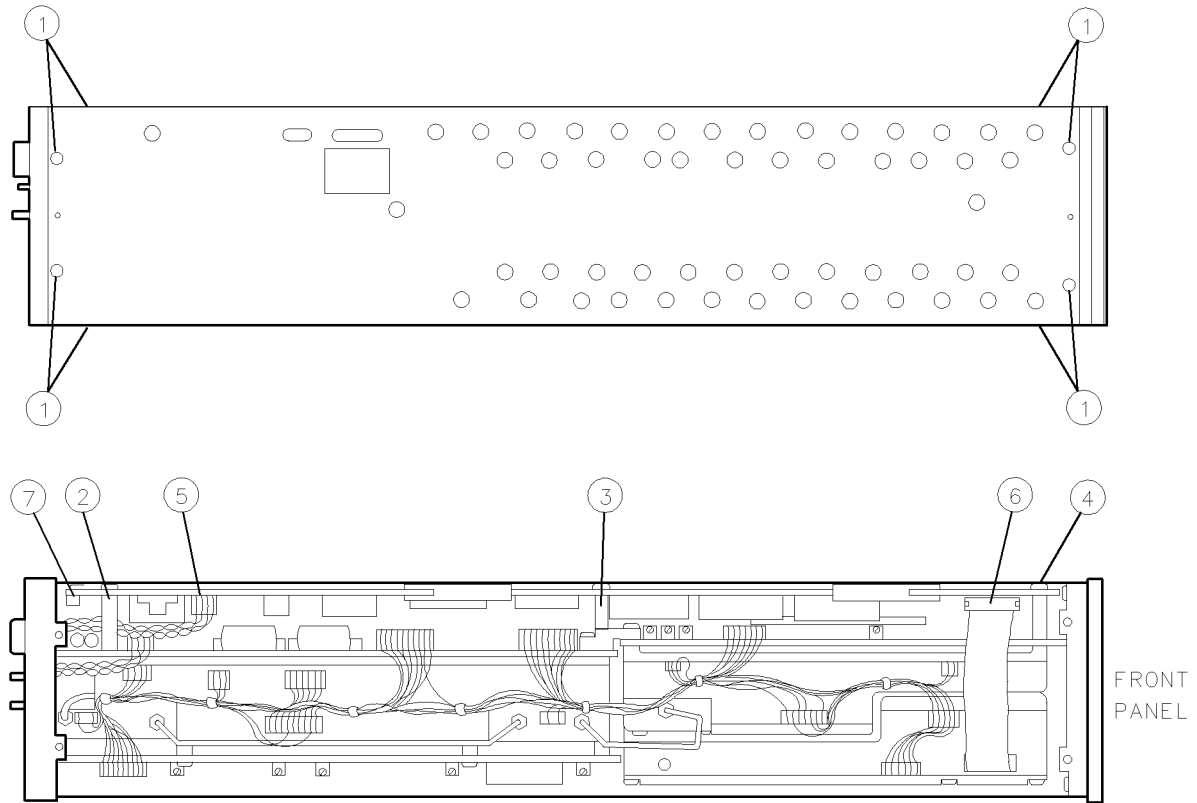

Figure 9-1. A1A1 Host/Processor Removal/Replacement
1. Remove the module's cover by removing the eight screws ① (four on top, two on each side) illustrated in Figure 9-1.
2. Remove three screws ②, ③, and ④ and their spacers from the A1A1 host/processor.
3. Disconnect wire W11 from the A1A1 host/processor's connector ⑤.
4. Carefully work the controller assembly out of its two motherboard connectors. When it is just out of the connectors, but still within the frame, disconnect W14 ⑥.
5. Carefully move the controller assembly away from the frame, taking care not to damage the W20 HP-MSIB flex-print cable ⑦. Disconnect the flex-print cable and put the assembly on a nonconductive, static-protected surface.
1. Remove the module's cover by removing eight screws ① (four on top, two on each side) illustrated in Figure 9-1.
2. Remove one screw ③ with a star washer, and remove the flat washer and green spacer from the center top of the A1A2 1/4 MB RAM/ROM.